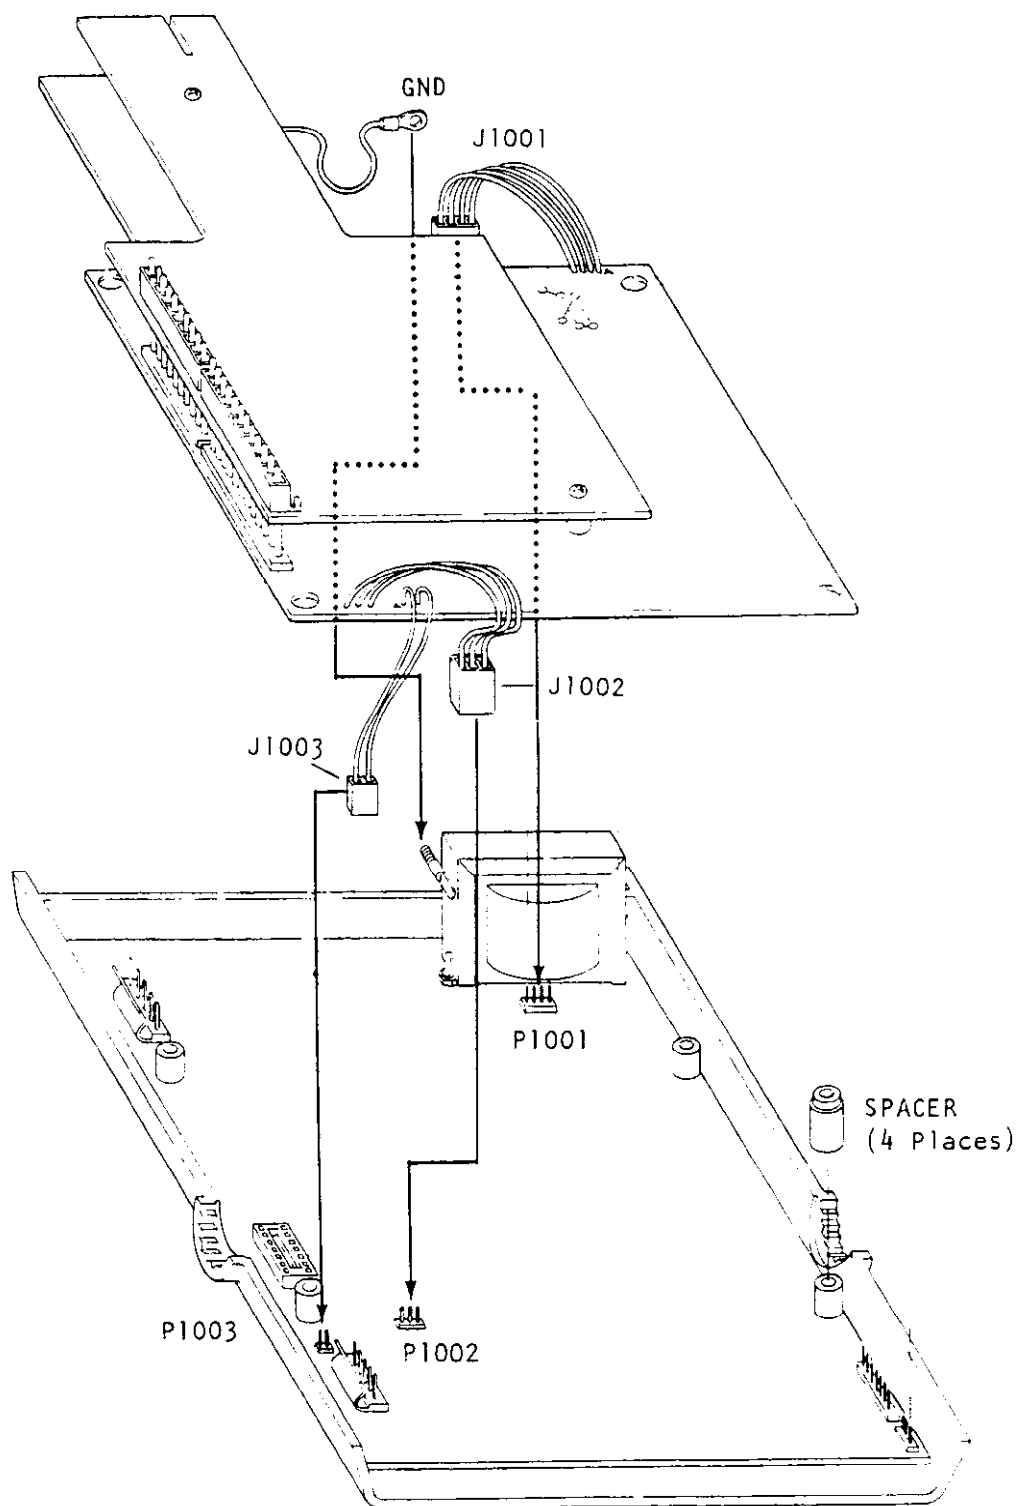

FIGURE 3-9. Installation of Model 1722.
7. Check to see that the four insulating spacers are in position on the circuit board as shown in Figure 3-9.
8. Place the Model 1722 on the spacers as shown in Figure 3-9.
d. How to Select Vext Using Internal Jumper. The Model 1722 may be wired for use with internal or external voltage references and internal pull-up resistors. (See Figure 3-9).